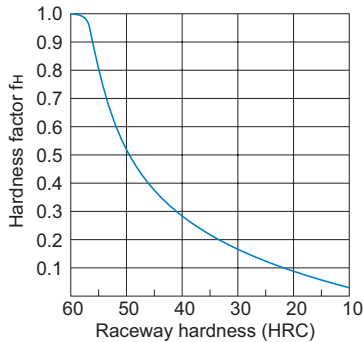

Fig.2 Hardness Factor (f_H)
- f_H : Hardness factor (see Fig.2 on A-557)